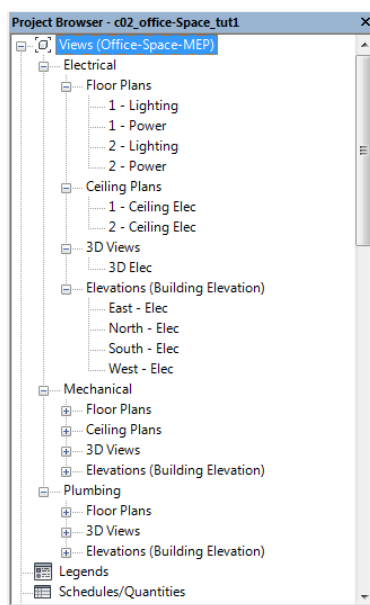

Figure 2-33 The Project Browser displaying the settings specified in the Office-Space-MEP browser organization
9. In the **View** tab of the **Browser Organization** dialog box, select the **Office-Space-MEP** check box. Now, choose the **Apply** button and then the **OK** button; the dialog box is closed and the specified settings are applied to the **Project Browser**, as shown in Figure 2-33.